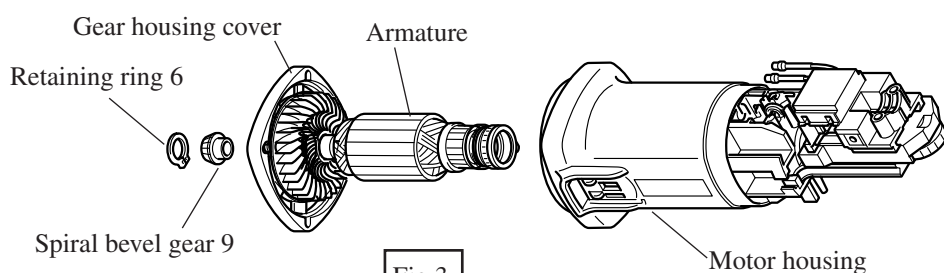

Fig.3
- 3) After pulling out armature from motor housing, remove retaining ring 6 with retaining ring plier, and detach spiral bevel gear 9 as illustrated in Fig.3.